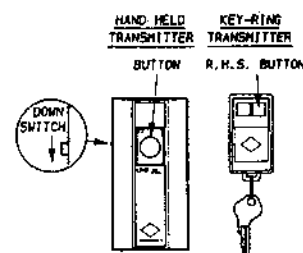

Figure 19
- After the code has been set in the powerhead receiver with the keyring transmitter, press the hand-held transmitter to verify the garage door opener responds to this transmitter. If not, check the code setting again in the hand transmitter. The left-hand side button of the keyring transmitter corresponds to the up position of the side switch of the hand-held transmitter. The right-hand button corresponds to the down position (see Figure 19).
This three pin connector is to facilitate the connection of an external receiver. The 12 volt pin (Figure 19) is used to supply power to the external receiver. The available power supply is 12V (DC), 25mA. The signal pin is used as input to activate the garage door opener. To connect the cable, refer to the installation instruction supplied in this kit. The plastic wall that covers the connection must be carefully cut away with a sharp knife in order to plug in the cable.